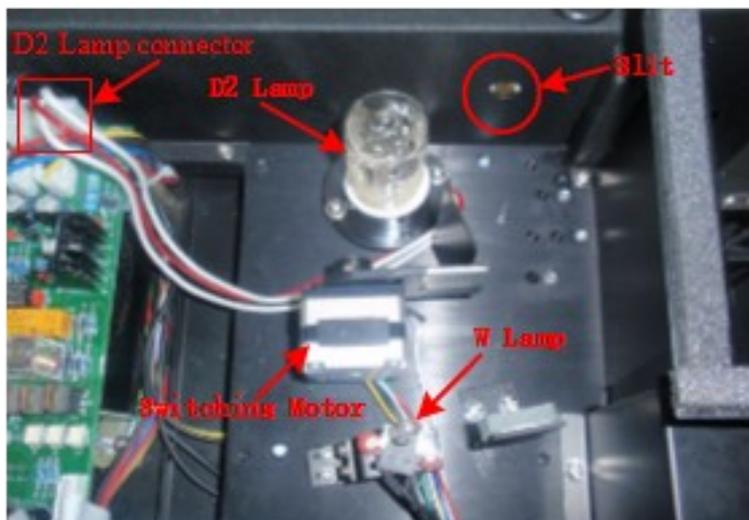

Fig. 4-5
Step 5: Disconnect the three leads of the deuterium lamp (Fig. 4-3) from the circuit board, unscrew the two fixing screws (as shown in Fig. 4-4) and remove the deuterium from the base of lamp chamber (Fig. 4-5). Then fix the new lamp onto the right position and connect its three leads to the circuit board.